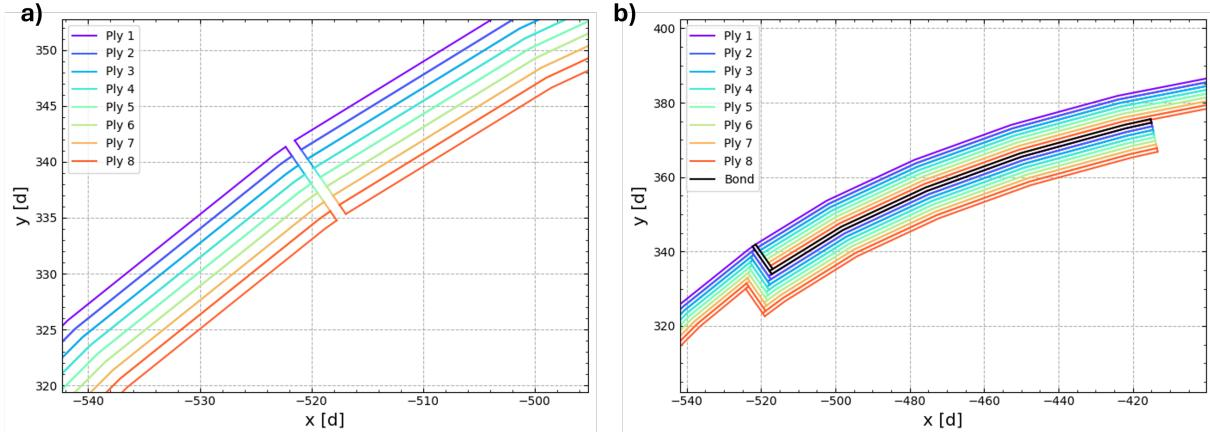

Figure 18: Overlap options: a) with "Generate overlap" unchecked, b) with "Generate overlap" checked.
- **Skin top/bottom split:** Minimum distance from the leading edge (LE) to the skin overlap. This value cannot be changed as it is calculated from the previous module.
- **Generate overlap:** This option generates the entire overlap when checked, otherwise the method only generates the splitting location of the skin. (See Figure 18)